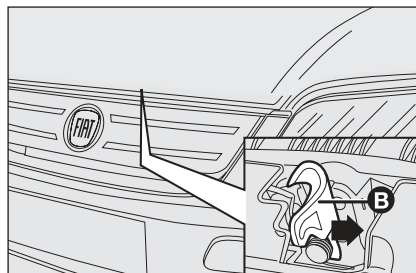

fig. 123
- move the lever **B**-fig. 123 to the right as shown by the arrow;